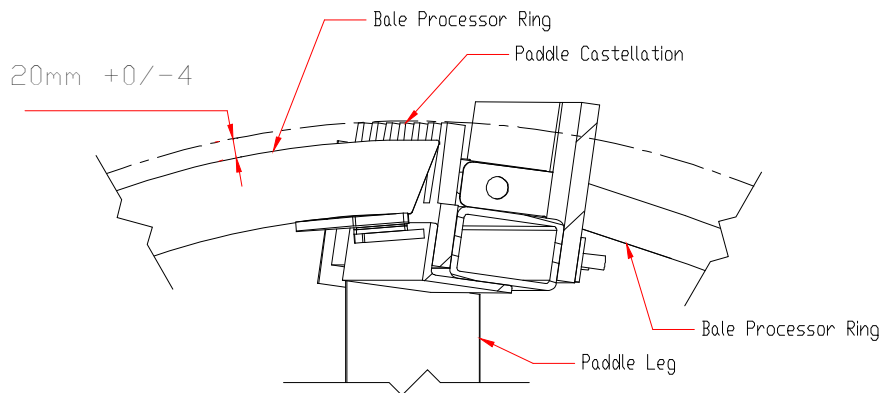

Figure 16: 08 Bale Processor ring to paddle tip setting
- 2: The rubber buffer should also be checked for wear or signs of damage which may affect its shock absorption. Optimum tine to top knife gap is 235mm +/- 5mm, but may vary depending on application and the design of tine fitted. Please consult your local Service Centre for settings. The optimum distance from the ring to the top of the castellation is 20mm +0/-4mm on the rear of the ring (Series II Bale Processor machines only – see figure 16).